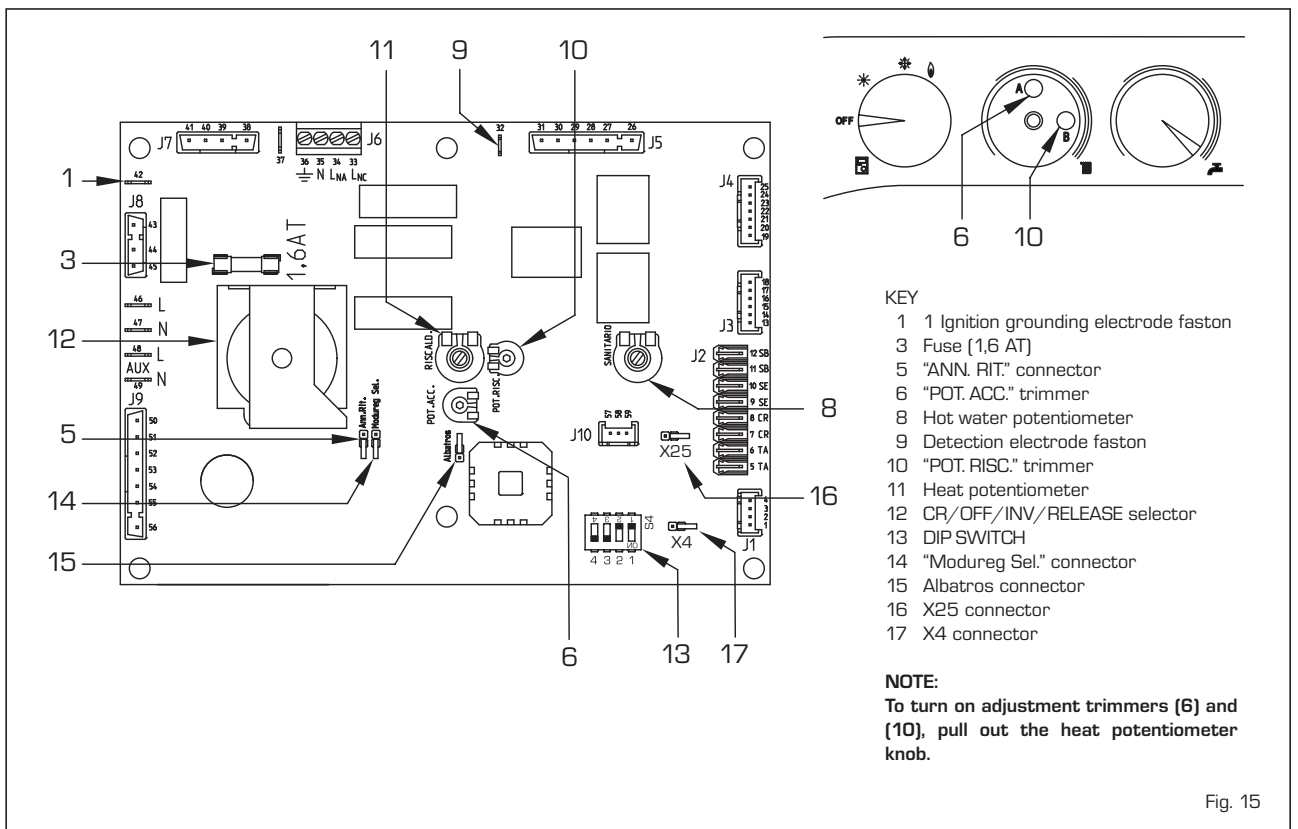

Fig. 15
- "POT. RISC." trimmer (10 fig. 15)
- "POT. ACC." trimmer (6 fig. 15)
- "ANN. RIT." connector (5 fig. 15)
- DIP SWITCH (13 fig. 15)
- "Modureg Sel." connector (14 fig. 15)
- "Albatros" connector (15 fig. 15)